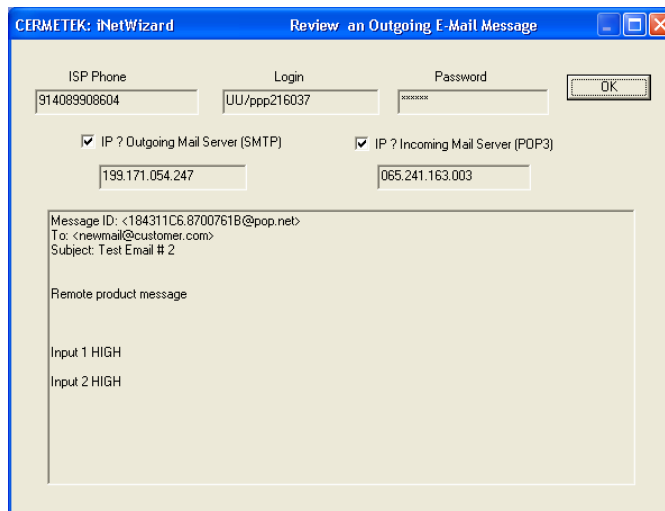

Figure 27. iNetWizard® Review An Outgoing Email window per Example 4.
Step 4. Single click on the REVIEW EMAIL button to review the email message. This will cause iNetWizard® to transfer the Local Configuration Profile to the iNet device's Active Configuration Profile. During this transfer process, both the CONFIGURING INET PRODUCT and the QUERYING INET PRODUCT messages will be displayed. See the REVIEWING AN OUTGOING E-MAIL MESSAGE window in Figure 27.